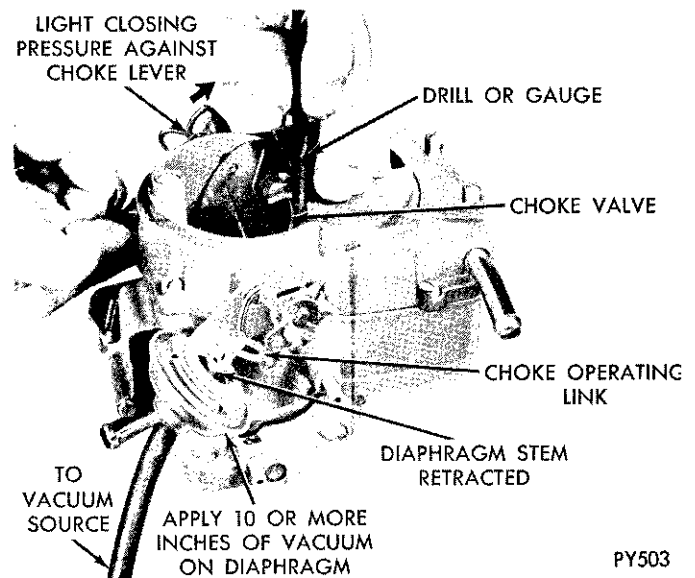

Fig. 13—Checking Choke Vacuum Kick Setting (Wide Open Kick)
(3) Insert specified drill (refer to Specifications) between choke valve and wall of air horn (Fig. 13). Apply sufficient closing pressure on lever to which choke rod attaches to provide a minimum choke valve opening without distortion of diaphragm link. Note that the cylindrical stem of diaphragm will extend as internal spring is compressed. This spring must be fully compressed for proper measurement of vacuum kick adjustment.
(4) An adjustment will be necessary if a slight drag is not obtained as drill is being removed. Shorten or lengthen diaphragm link to obtain correct choke opening. Length changes should be made carefully by bending (open or closing) the bend provided in diaphragm link. **CAUTION: DO NOT APPLY TWISTING OR BENDING FORCE TO DIAPHRAGM.**
(5) Reinstall vacuum hose on correct carburetor fitting. Return fast idle linkage to its original condition if disturbed as suggested in Step No. 1.
(6) Make following check. With no vacuum applied to diaphragm, the **CHOKE VALVE SHOULD MOVE FREELY** between open and closed positions. If movement is not free, examine linkage for misalignment or interferences caused by bending operation. Repeat adjustment if necessary to provide proper link operation.